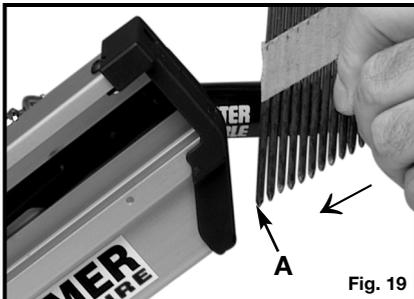

Fig. 19
2. Orient a strip of approved fasteners with points down (A) Fig. 19, align, and insert into the magazine "T" slot **points first**.